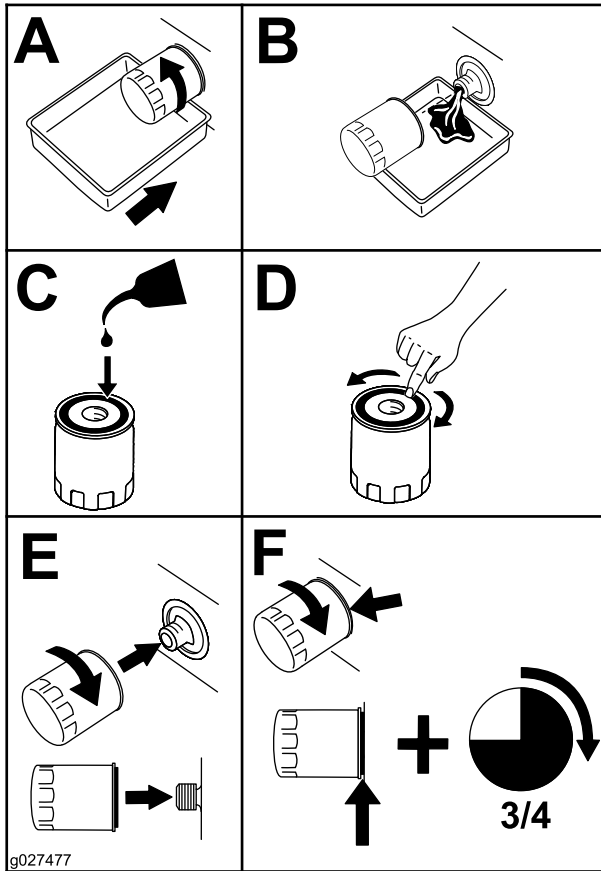

Figure 68
5. Change the engine-oil filter (Figure 68).